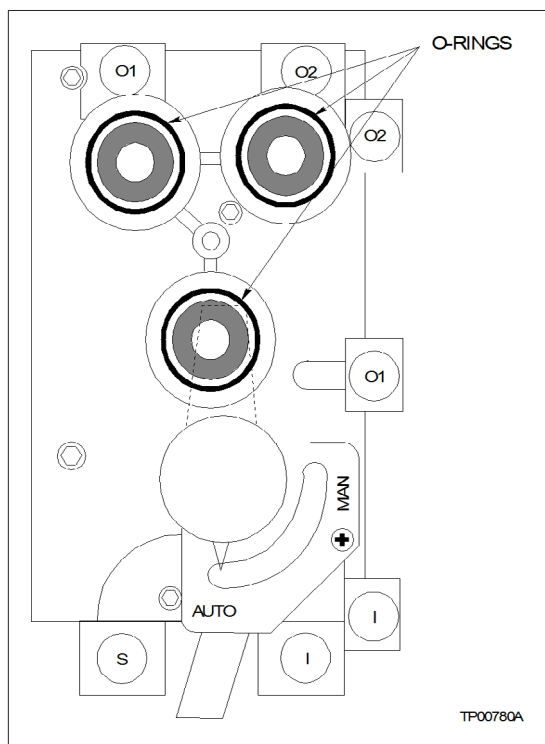

Figure 7-2. Manifold with Filter Cover Removed
4. Replace and lubricate the three O-rings (Fig. 7-2) using the lubricant supplied in the kit (Dow Corning® No. 4).